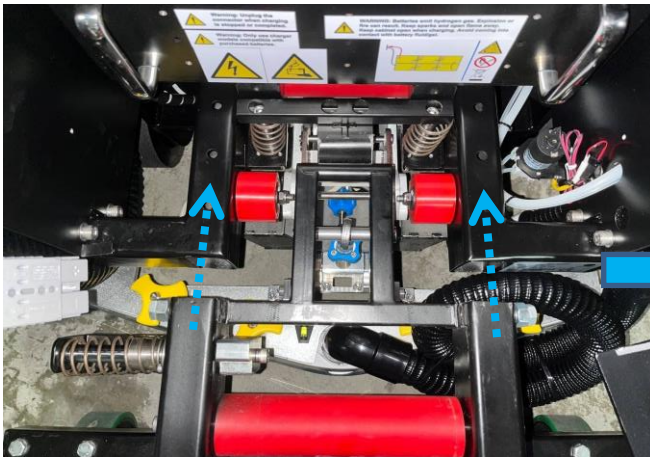

Fig. 2
2. Align battery trolley to the battery tray (Fig 2).